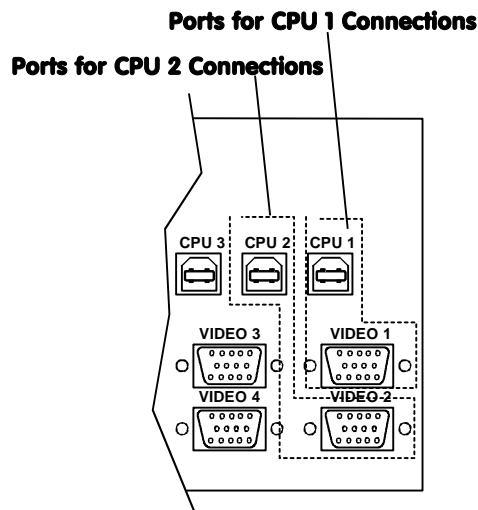

Figure 5- Group CPU ports by like number
- Connect a USB type A cable end of a USBVEXT-xx-MM cable to a USB type A female user device port on a CPU. Connect the USB type B cable end of the same cable to a CPU x port on the UNIMUX switch. Note the port's number. (See Figure 5.)
- Connect the 15HD male cable ends of a USBVEXT-xx-MM cable from the video port of the same CPU to a VIDEO x port of the UNIMUX switch with the same port number as the user device cable. (See Figure 5.)